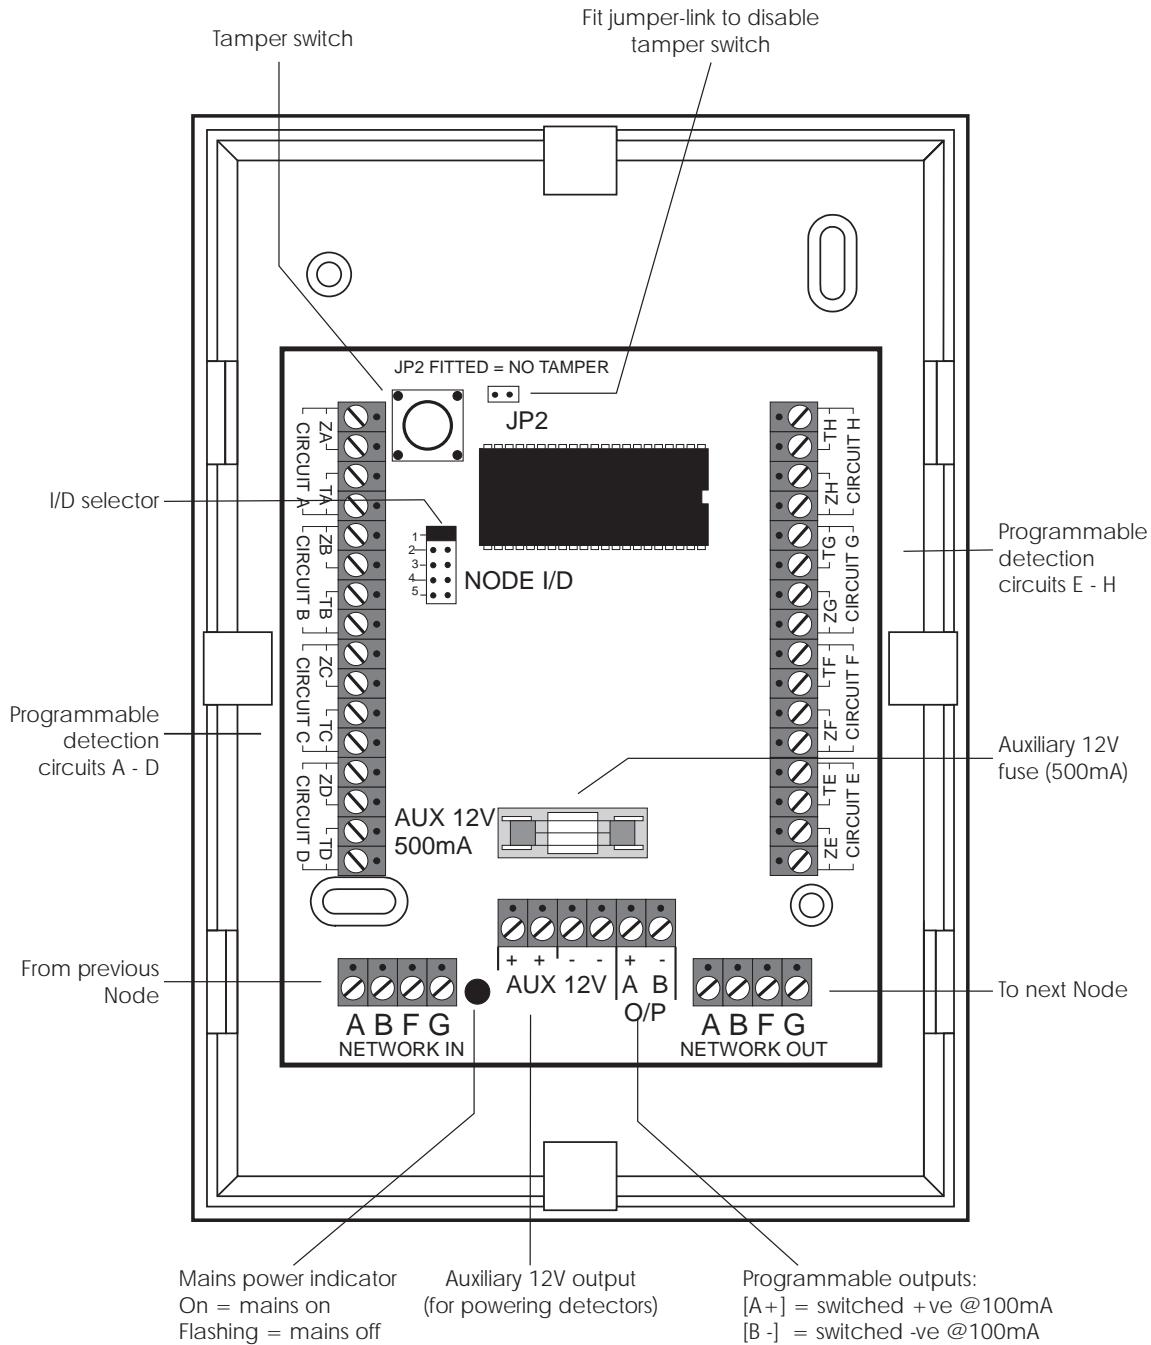

Figure 13 TS900 Node Layout
2. If the Node is being fitted inside the control panel you may remove the Node PCB from its base and secure it to base of the control panel using self adhesive feet. If required, the tamper switch may also be disabled by fitting the jumper link across JP2, see *Figure 13*.
4. Connect “Node Network” cables and detection circuit cables to the appropriate terminals, see *Figure 13*.